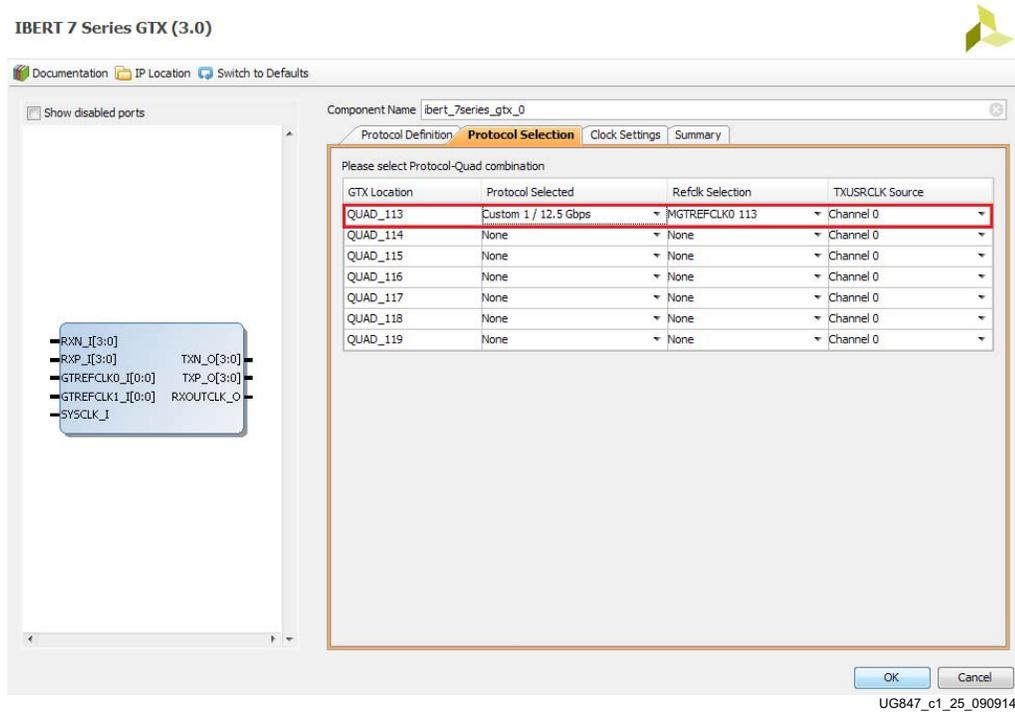

Figure 1-25: Customize IP - Protocol Selection
- In the Protocol Selection tab, select **Custom 1 / 12.5 Gbps** in the drop-down menu under Protocol Selected next to **QUAD_113**, and select **MGTREFCLK1 113** in the Refclk Selection drop-down menu (Figure 1-25).